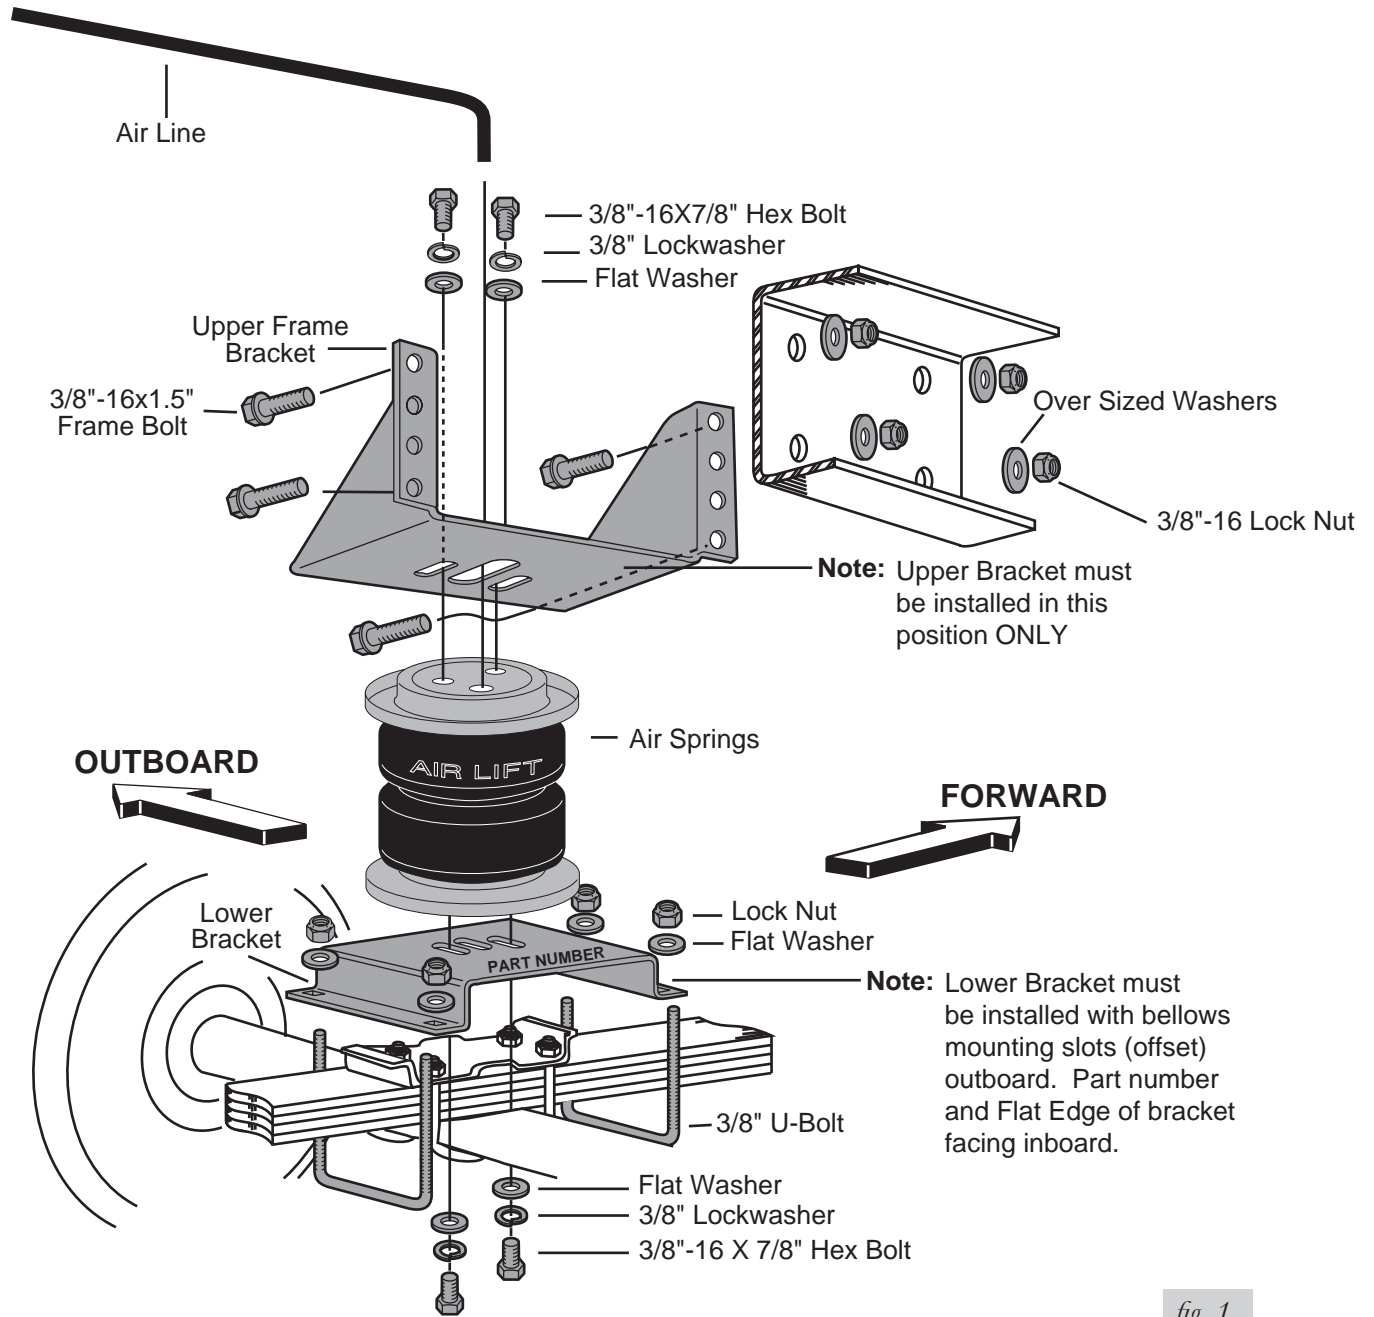

fig. 1
1. Set a roll plate on both ends of the air spring. The radiused (rounded) edge of the roll plate will be towards the air spring so that the air spring is seated in both roll plates (Figs. 1,4 and 5).
2. Attach the lower bracket to the leaf spring using provided U-bolts, flat washers and lock nuts as shown in Figure 1.